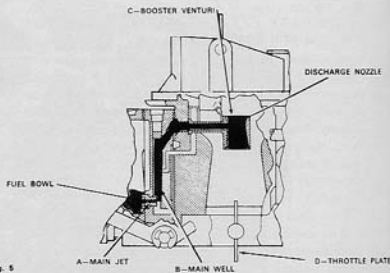

Fig. 5
The main metering system in the primary carburetor (Figure 5) operates at cruising speed when the accelerator is further depressed. Fuel flows from the bowl through main jets (A) which meter fuel into the bottom of the main well (B). Fuel moves up the main well and through the discharge nozzle, into the booster venturi (C). Throttle plate position (D—shown in wide-open position) controls the air flow and fuel-air mixture entering the manifold.